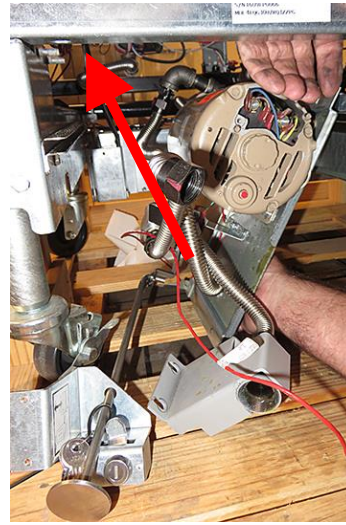

Figure 72
70. Reinsert the entire dispose/filter pump assembly back into the fryer (see Figure 72).